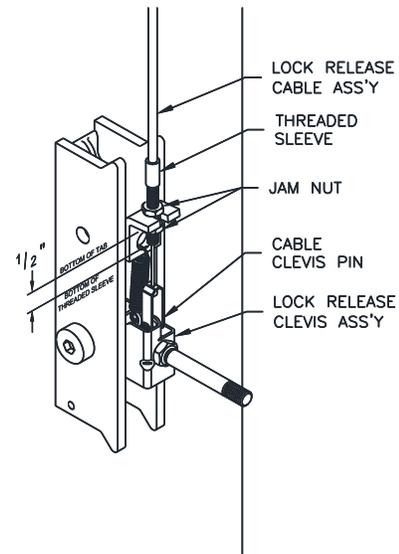

Fig. 15 – Power Column Lock Assembly
- 33) Attach mechanical lock release cable assembly to power column lock release clevis using the 3/16" diameter x 1/2" long pin and (2) "C" clip retainers, Fig. 15.
- 34) Insert threaded sleeve portion of cable assembly in slot located on tab above locking pawl, Fig. 15. One jam nut should be located on each side of tab. Position threaded sleeve with 1/2" of thread below tab as indicated in Fig. 15 and tighten jam nuts.
- 37) Insert threaded sleeve portion of cable assembly in slot located on tab below lock pawl, **Fig. 15**. With one jam nut located on each side of tab, adjust the threaded sleeve to begin to pull tension on the 1/2" O.D. spring. Snug jam nuts by hand.